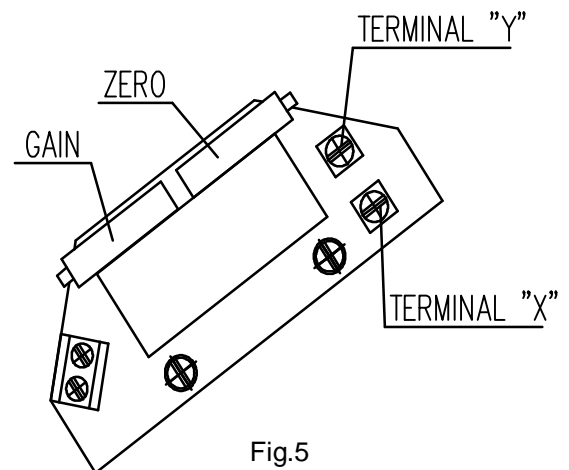

Fig.5
4.4.1 EPV – the 2-wire version (Fig. 5)
- Adjust the resistive transmitter according to the previous chapter. The resistance is to be metered on the terminals X-Y (Fig. 5). The used transmitter resistance is 100 Ω.
- Turn the adjusting trimmer ZERO (Fig. 5) to adjust the output current signal rate measured on the terminals 81-82 to 4mA.
- Turn the adjusting trimmer GAIN (Fig. 5) to adjust the output current signal rate measured on the terminals 81-82 to 20mA.